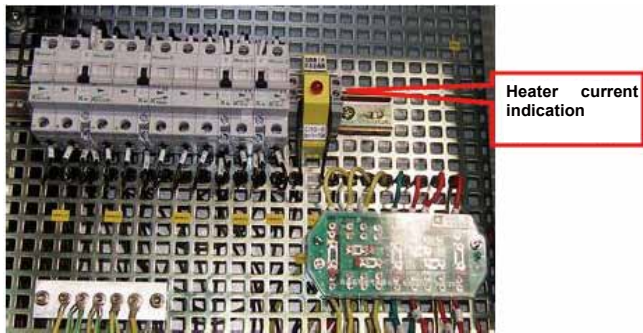

Figure 5/1: Heater current monitoring relay
- Check the heater condition, if installed. The relay monitoring the heater current is in the low voltage compartment. Check the heater circuit if the red current indication turn off due to the heater losing power supply. (see figure 5/1)